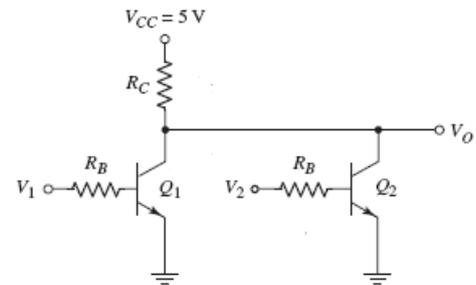

Figure 2
2) NOR logic gate circuit: The circuit for the NOR logic gate is shown in Figure 2. When the two inputs $V_1 = V_2 = 0$ (Logic 0), both transistors (Q_1 and Q_2) are in cutoff, and $V_O = 5$ V (Logic 1). When $V_1 = 5$ V (Logic 1) and $V_2 = 0$ (Logic 0), transistor Q_1 can be driven into saturation, and Q_2 remains in cutoff, such that the output voltage is $V_O = V_{CE(sat)} = 0.2$ V (Logic 0). If the input voltages $V_1 = 0$ (Logic 0) and $V_2 = 5$ V (Logic 1), then Q_1 is in cutoff, Q_2 can be driven into saturation, and $V_O = V_{CE(sat)} = 0.2$ V (Logic 0). If both inputs are $V_1 = V_2 = 5$ V (Logic 1), then both transistors can be driven into saturation, and $V_O = V_{CE(sat)} = 0.2$ V (Logic 0).